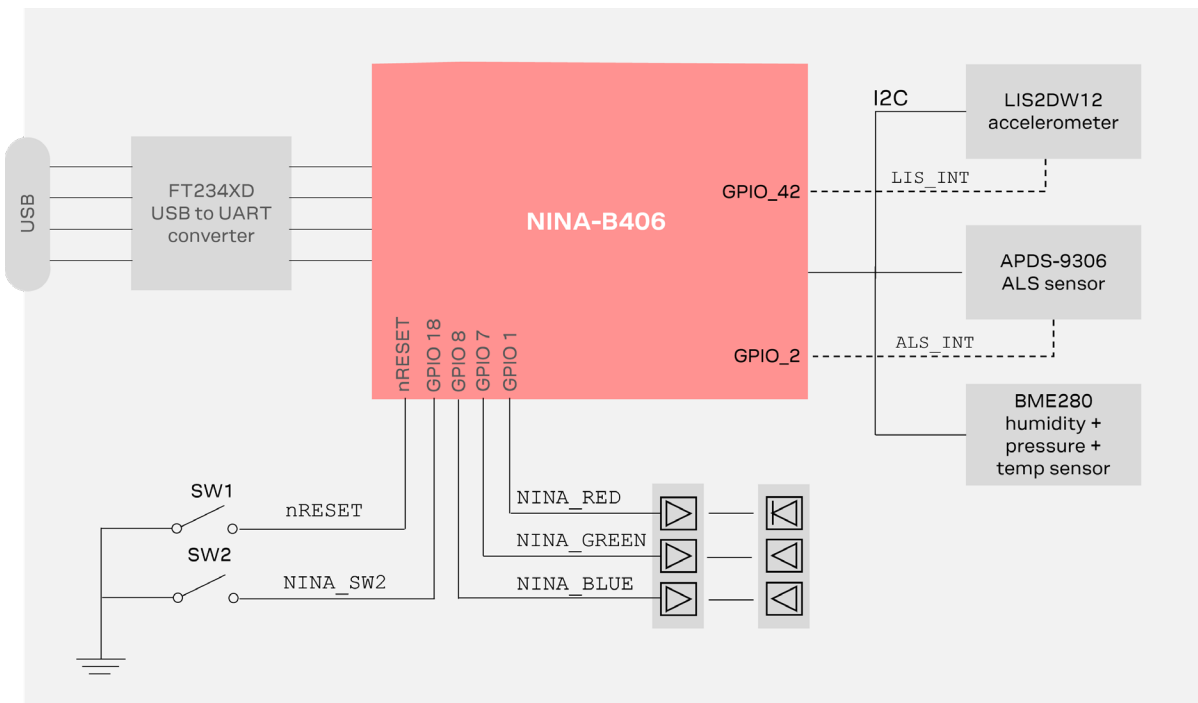

Figure 12: C209 main functional components
2. After the configuration it is necessary to remove jumpers J13 and J22, as shown in Figure 12. These jumpers select UART1/UART3 on the EVK-ODIN-W2 and direct the UART signals to the Arduino-compatible interface.
Figure 12. Shows the location of jumpers J13 and J22. Remove these to select UART1/UART3 on the EVK-ODIN-W2 and direct the UART signals to the Arduino-compatible interface.
The main components of any C209 tag are shown in Figure 12.